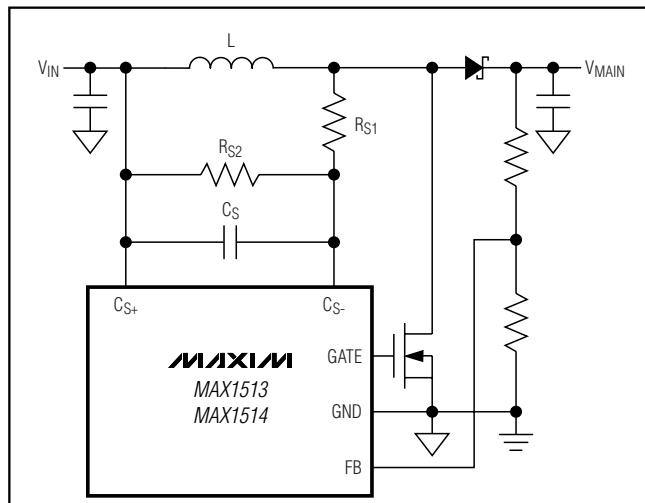

Figure 9. Lossless Current Sensing with $V_{SENSE} > 100mV$
5) If V_{SENSE} is greater than 100mV, the current-feedback signal is too high and can trip the current limit before the full load current is delivered. Use the current-sense configuration in Figure 9 to attenuate the sense signal. Define the scale factor (SF) as:
Because V_{SENSE} would be greater than 100mV, the circuit in Figure 9 should be used and the scale factor is: